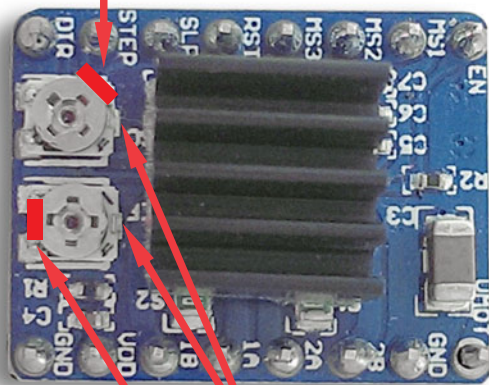

Fig14.1
3. Adjust how much power is sent to each motor by turning the lower potentiometer, using the supplied ceramic screwdriver, as seen in Fig 14.1. Turn screw in 5 degree increments until motor makes a light hum and doesnt skip. It's better to slightly overpower motor as too little power can cause skipping in prints with rapid movement.
4. Top potentiometer is used as a temperature cut-off safety but isn't needed. Make sure this potentiometer is turned to the position shown in Fig 14.1
5. After adjusting motors, refer to the quickstart guide to start a print. After 5-10 minutes, feel the back of each motor to ensure they aren't getting very hot (warm is ok). If too hot, they may be receiving too much power. Also check heatsink as seen in Fig 14.1. Be careful since it may be very hot. If too hot turn down the potentiometer slightly.